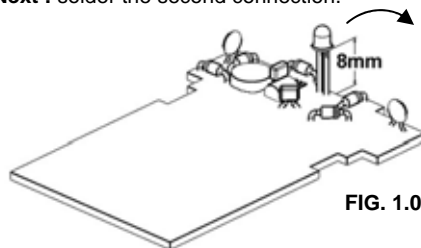

FIG. 1.0
**First :** Mount this LED like in the drawing (fig. 1.0). Solder **one** lead, check the position, if necessary correct it by heating the soldering.